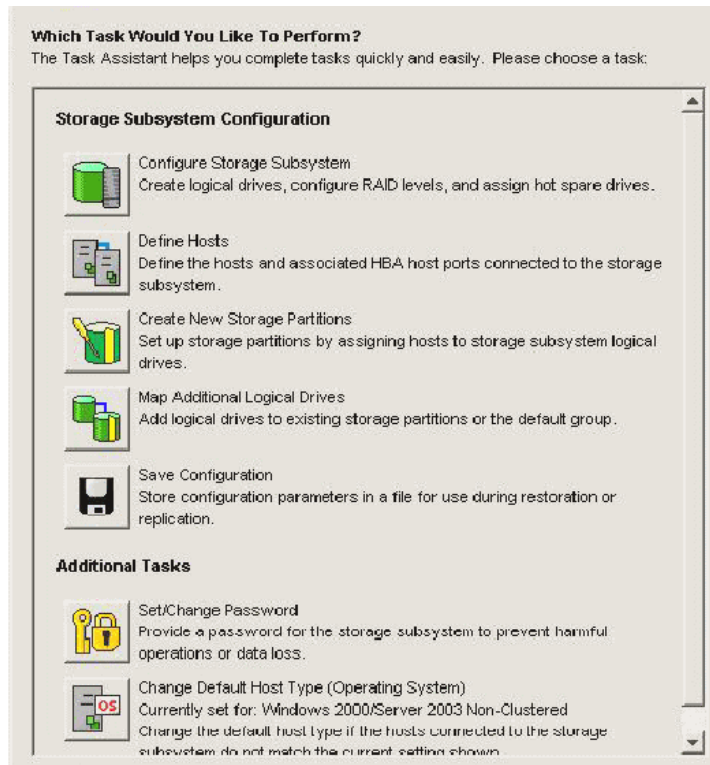

Figure 9-38 Storage Subsystem Configuration window
7. Specify which storage subsystem you plan to manage. In our example, it is the DS4100. Click **OK**. You will see a window similar to Figure 9-38.